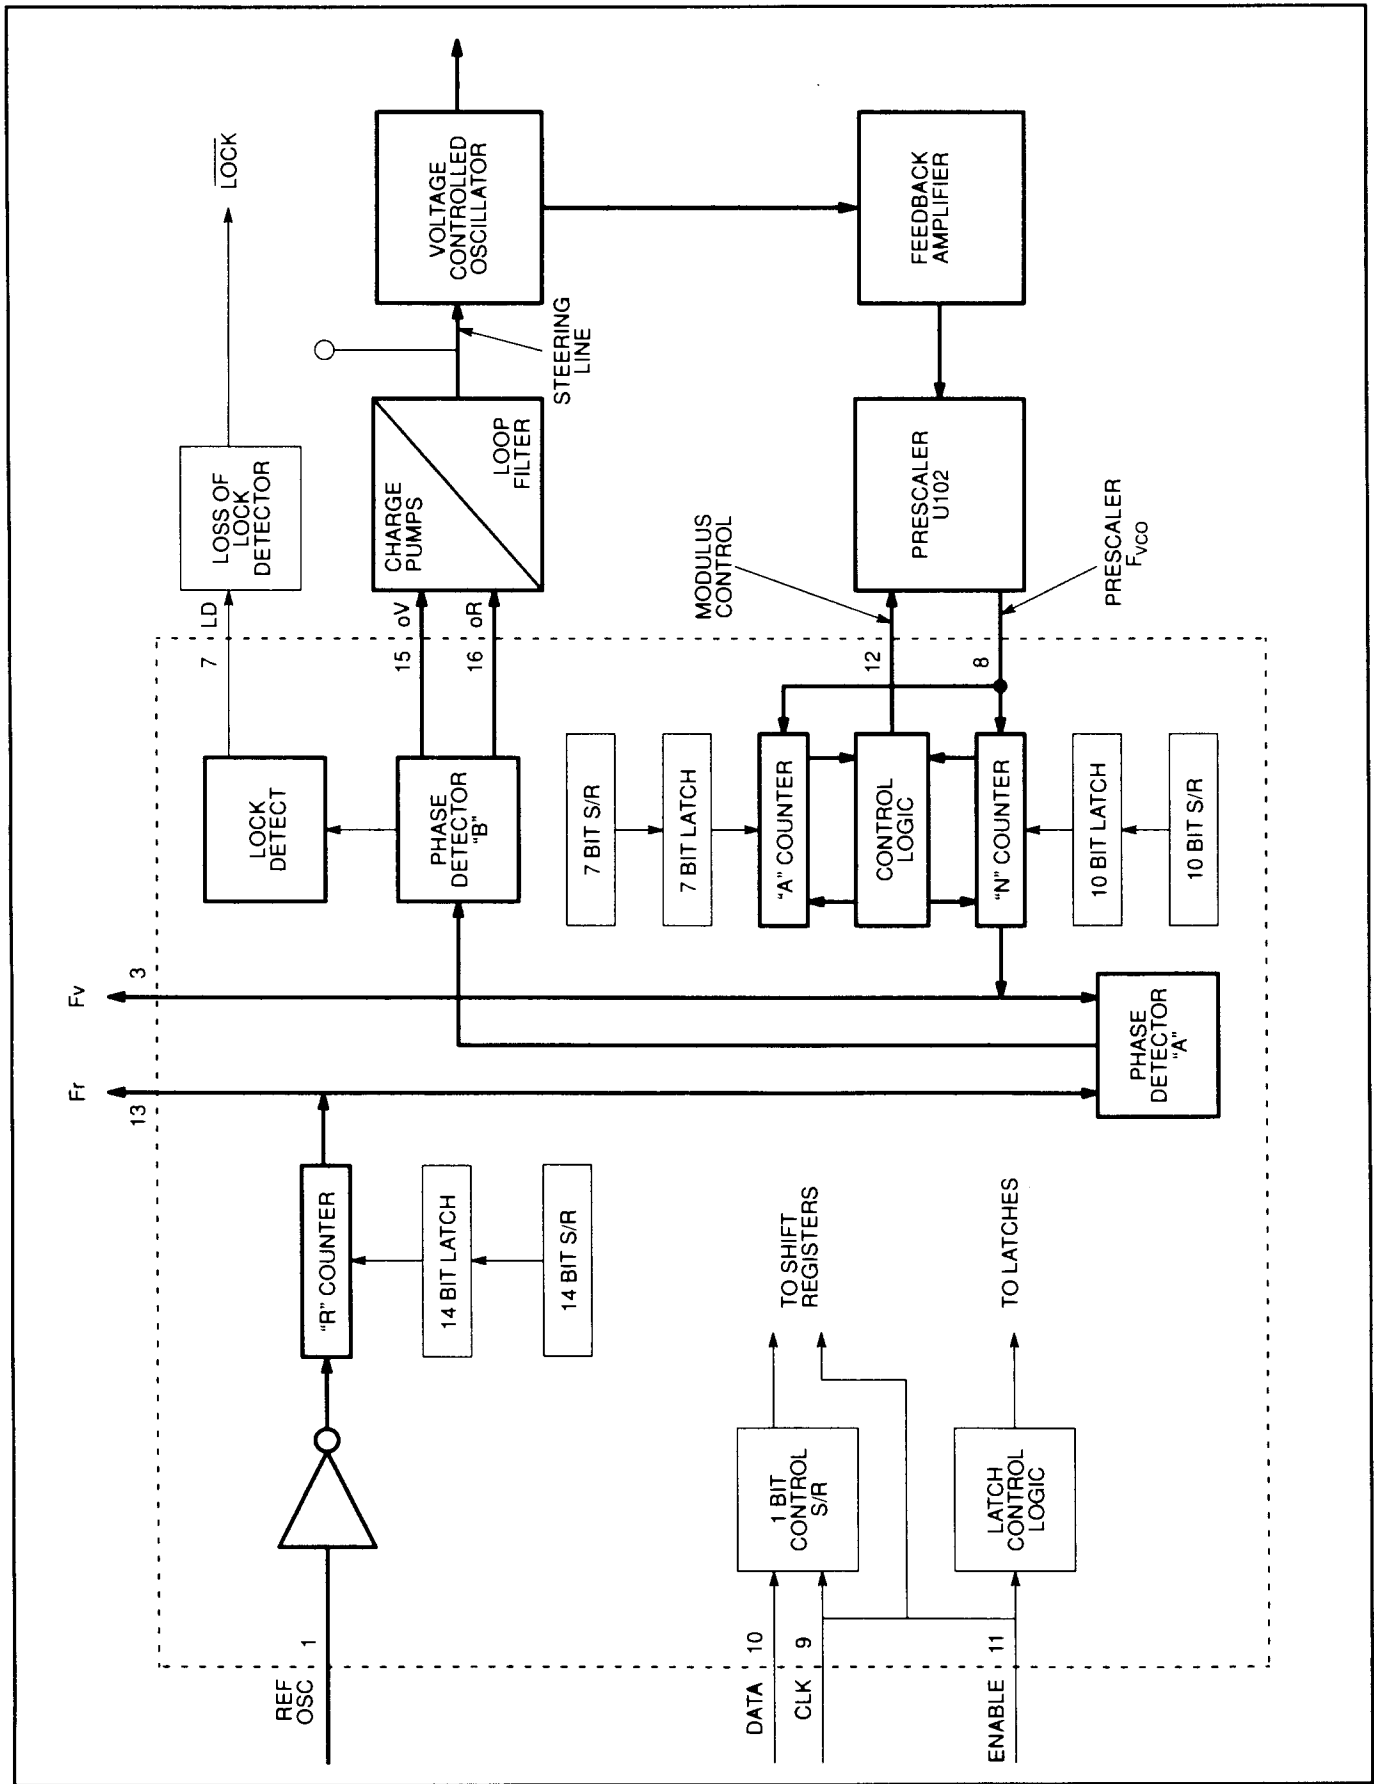

Figure 2. Synthesizer Section Block Diagram
To determine the synthesizer's operating frequency, the microcomputer loads the frequency divider information into the PLL IC U101 (see Figure 2). The PLL IC contains three programmable dividers. The program is serially loaded via the SR DATA line to U101-10. The data is loaded one bit at a time, with each low-to-high transition of the SR CLOCK at U101-11 latching data from shift registers into the reference divider (R), divide-by-N, or divide-by-A latches depending on the control bit. A logic high of the control bit selects the reference counter latch, while a logic low selects the divide-by-N, or divide-by-A counter latch.